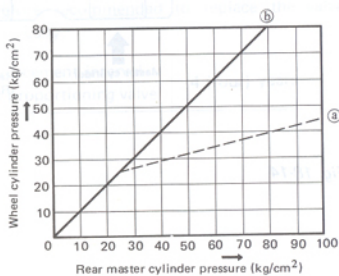

Fig. 18-16
While the front and rear brake systems are operating normally, on depressing the brake pedal, the piston ① is not moved since the oil pressure is applied to both surfaces of the piston, but is maintained in the neutral position so sealing off the oil passage between ⑤ and ⑥ by means of the force of spring ⑦. At this time, normal performance of the proportioning valve as shown by ③ in Fig. 18-16 is ensured.
When there is an oil leak in the front brake system, oil pressure to the front brake system is cut off almost completely. The piston ① is pushed to right by the oil pressure of the rear brake (spring ⑦ is compressed by the oil pressure) and the oil passage between ⑤ and ⑥ is opened. The proportioning valve stops operation as shown by ④ in Fig. 18-16, and all the pressure generated in the master cylinder of the rear brake system is supplied to the rear wheel cylinders as shown by ⑤ in Fig. 18-16.